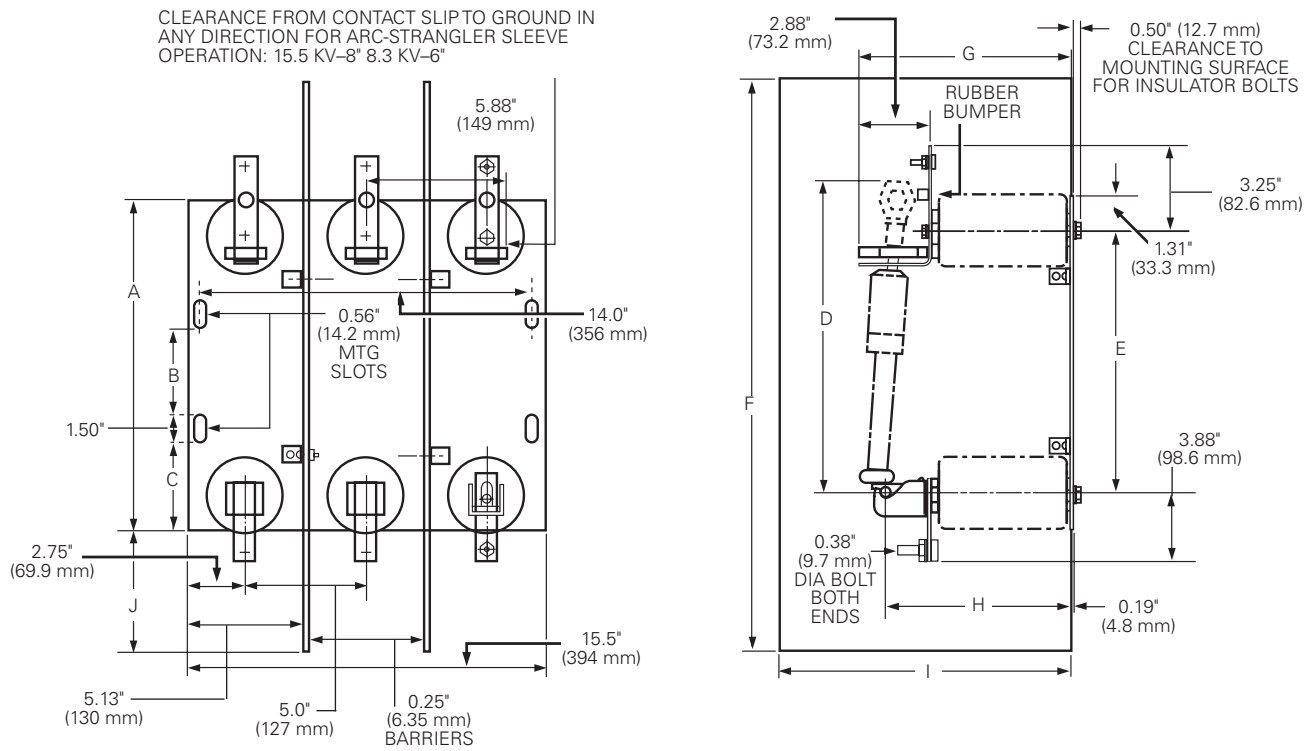

Figure 7. Three-phase frame mounting (FA1F Series).
* See Figures 7, 8, 9 and 10 for dimensional drawings.